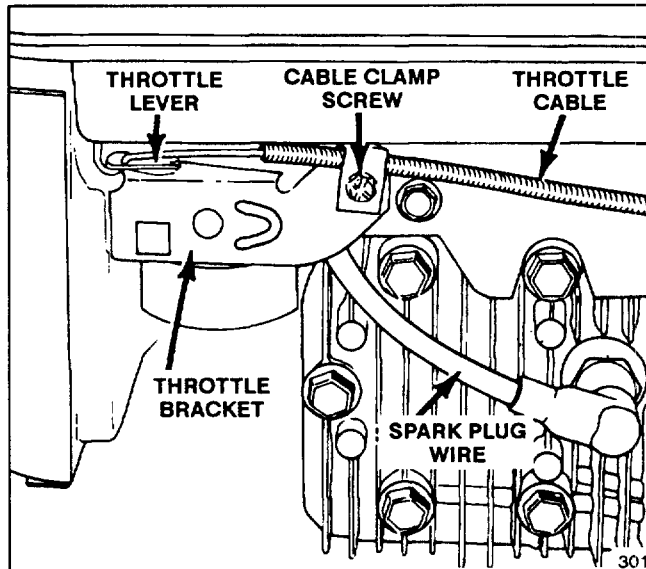
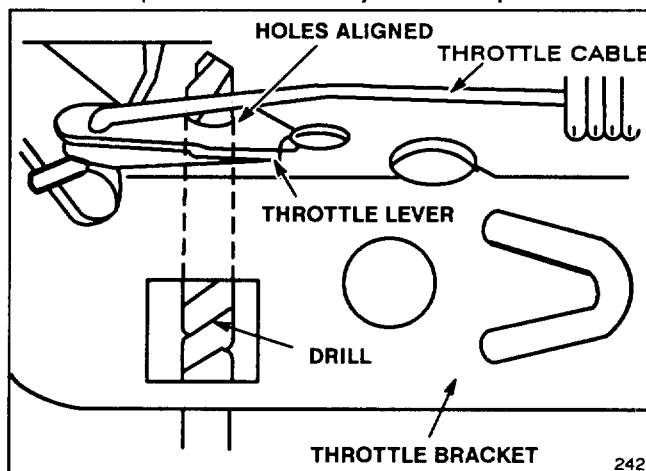

Figure 17
Figure 18
1. Stop engine. Remove key from switch and pull wire off spark plug (Fig. 17).
3. Loosen cable clamp screw until throttle cable slides (Fig. 17). Align holes in throttle lever and throttle bracket using a 1/8" diameter drill (Fig. 18). Tighten cable clamp screw to lock adjustment in place.
1. Stop the engine. Remove key from switch and pull wire off spark plug (Fig. 17).